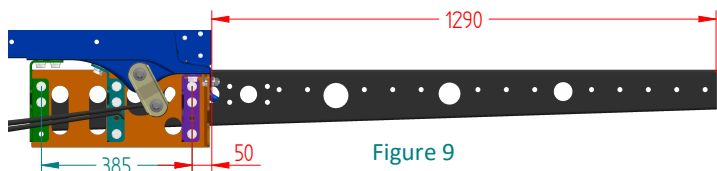

Figure 9
- Using **Figure 5** as a guide loosely fix items **B1**, **B2**, **C1**, **C2**, **D1** and **D2** to items **A1** and **A2** using items **J** with items **K** at the points not used to fix items **EXT** referring to **Figures 9** to **14**.